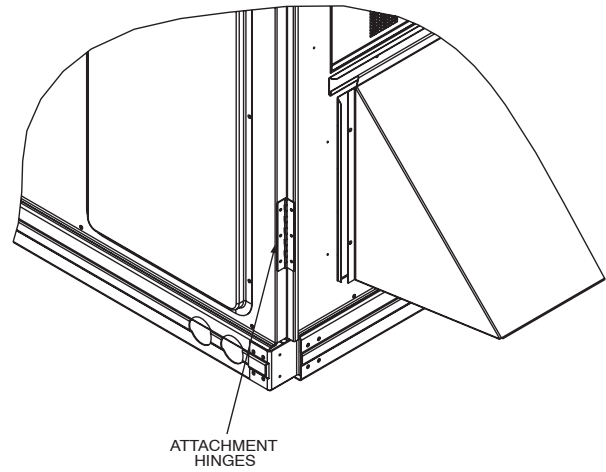
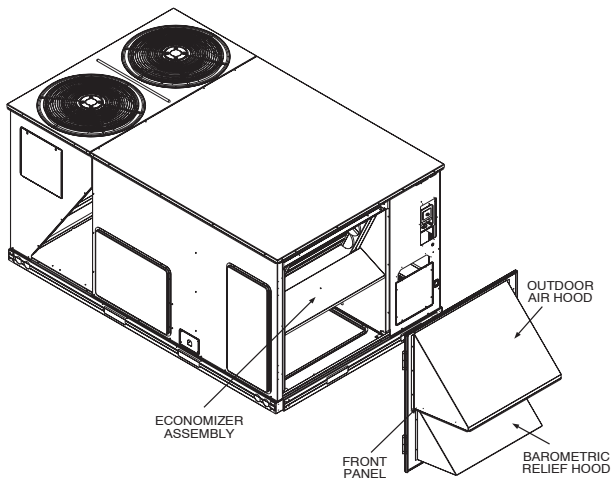
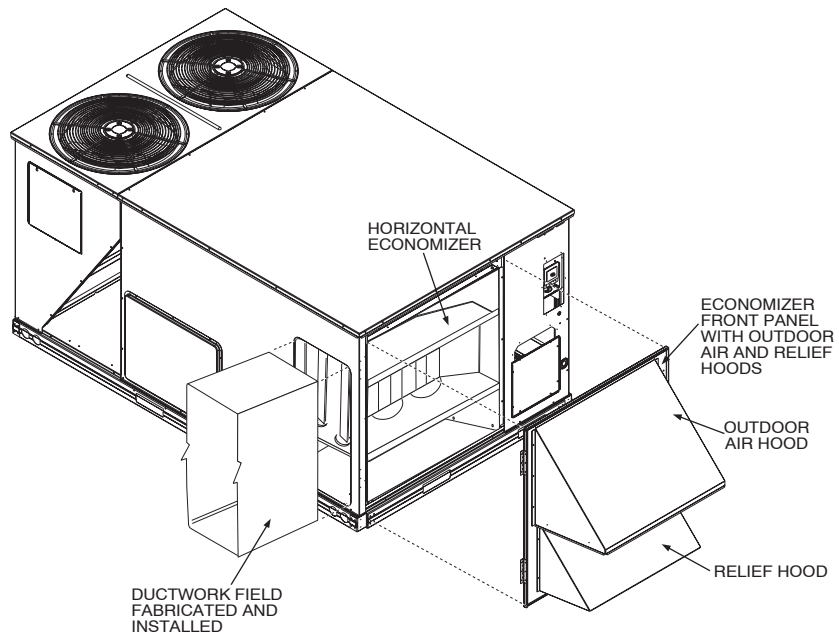

Fig. 6 – Economizer Front Panel Attachment Hinges
Fig. 4 – Install Vertical Economizer Front Panel
Fig. 14 – Installing Horizontal Economizer Front Panel
6. Slide the economizer assembly into the return air section of the rooftop unit as shown in Fig. 4. The front flanges of the economizer will be flush with the rooftop unit.
9. The outside air hoods and barometric relief hoods are factory installed on the economizer front panel/hood assembly. Lift the panel in place over the front of the economizer. See Fig. 4 and 5. Attach the panel to the unit with the screws saved from step 2. Use self-drilling screws (provided) to secure hinges on panel to unit. See Fig. 6.
7. The outside air hoods and barometric relief hoods are factory installed on the economizer front panel/hood assembly. Lift the panel in place over the front of the economizer. See Fig. 14 and 15. Attach the panel to the unit with the screws saved from step 2. Use self-drilling screws (provided) to secure hinges on panel to unit. See Fig. 6.